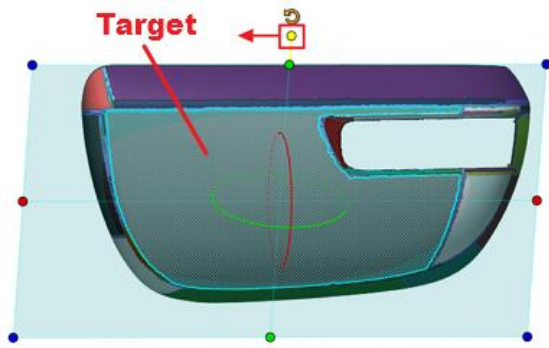

Figure 179
- Select the large, upper target **Region** shown in **Figure 179**.